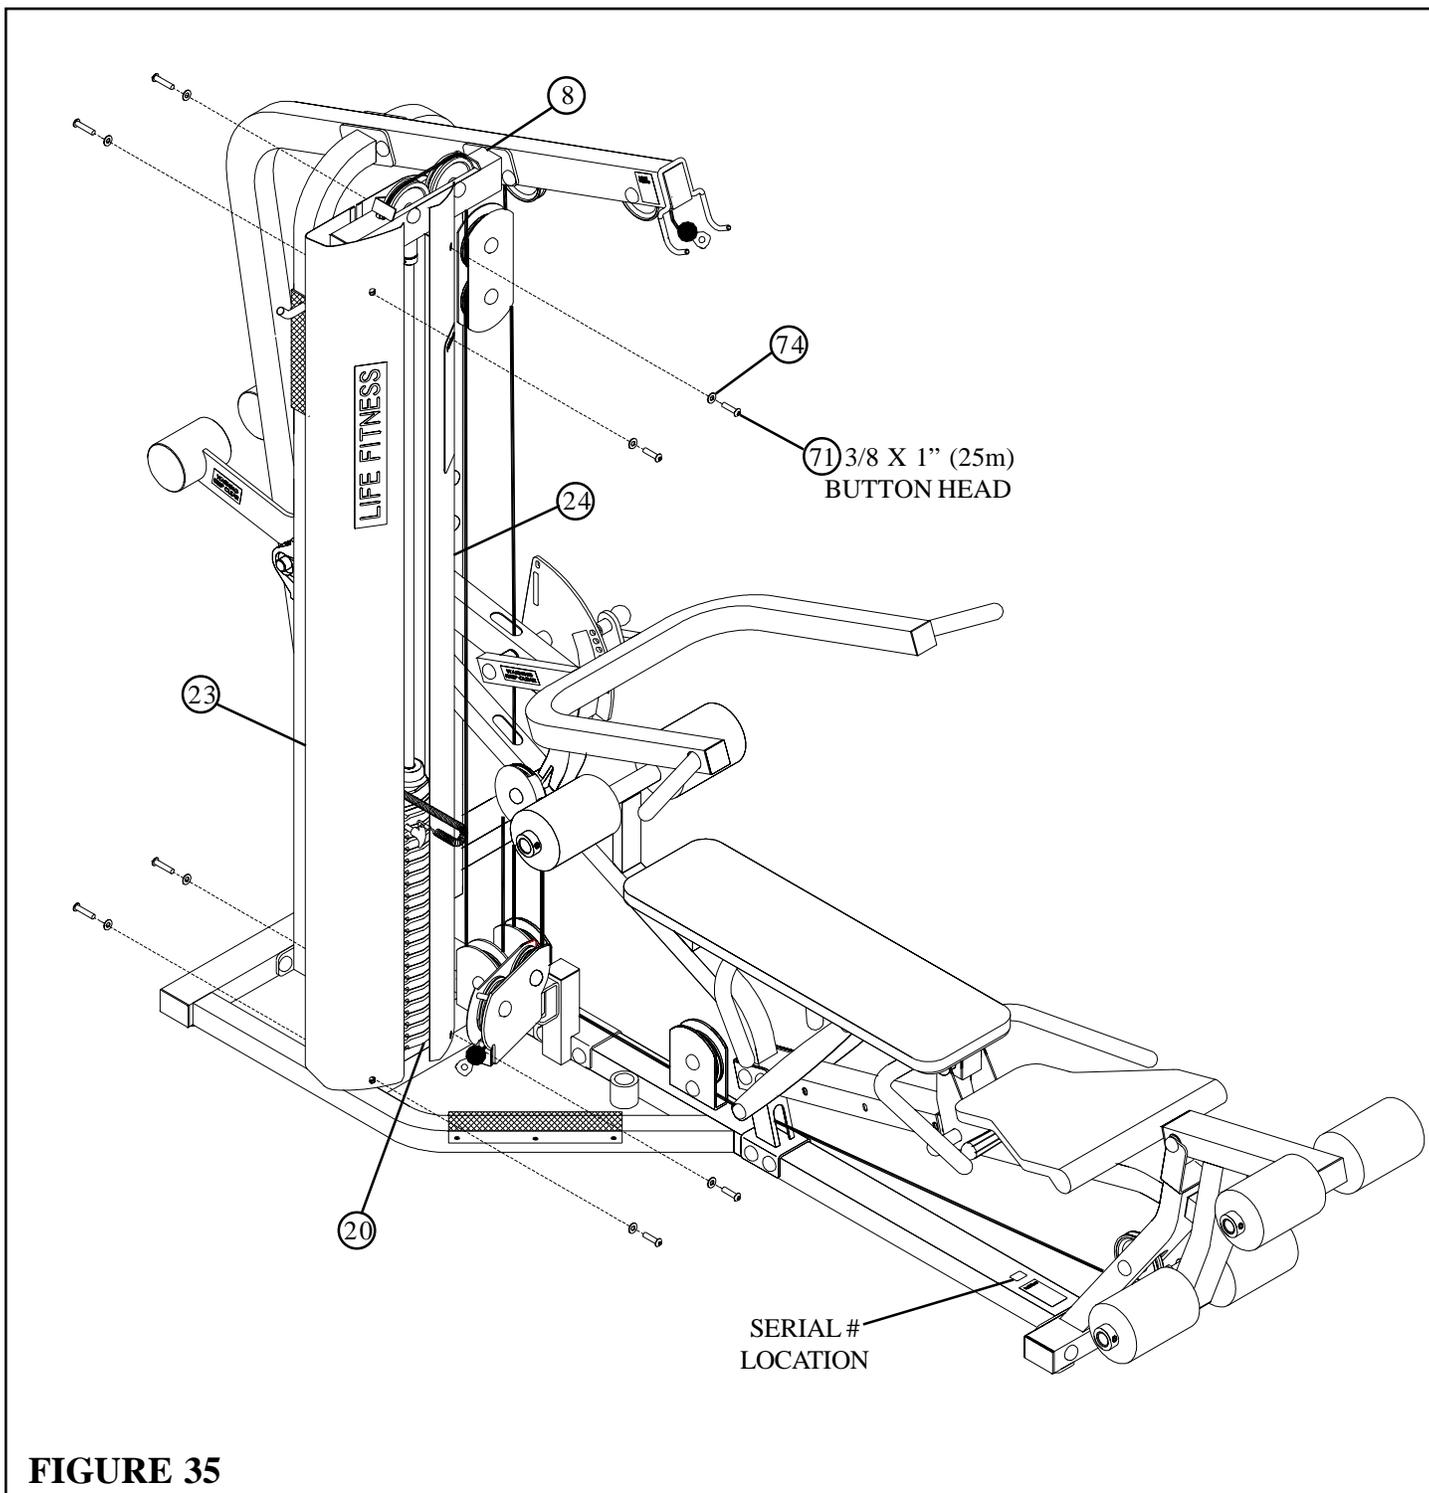

**FIGURE 34**
- Assemble the LOW ROW BAR (34) to the LEG CABLE (45) using two SNAP LINKS (40) and one 12-LINK CHAIN (48) as shown in FIGURE 34.
- Assemble the LAT BAR (28) to the LAT CABLE(44) using one SNAP LINK (40) as shown in FIGURE 34.